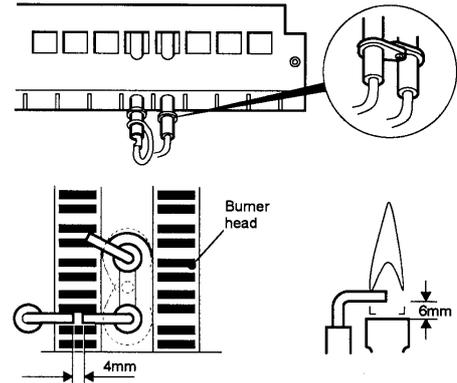

Fig. 17
Check the electrode gaps and positions (see Fig. 17) ensuring that the ignition electrode tips are:-
- 3 From underneath the burner, remove the screws securing the electrodes and withdraw them. Transfer them to the new burner. Ensure that the earth lead is connected and that the ignition electrodes are positioned before fitting the flame sensing electrode. Check the electrode gaps. See Fig. 17.
- 4 When refitting the electrodes, the earth electrode is at the left and the ignition electrode/flame sensing electrodes are at the right, secure in position with the screws previously removed. See Fig. 17. Ensure the earth lead is connected by the L/H electrode fixing screw, the R/H ignition electrode bracket is positioned first (white lead) then the flame sensing electrode (blue lead) bracket is positioned on top before securing in position.
- 5 Check the electrode gaps and positions (see Fig. 17) ensuring that the ignition electrode tips are: